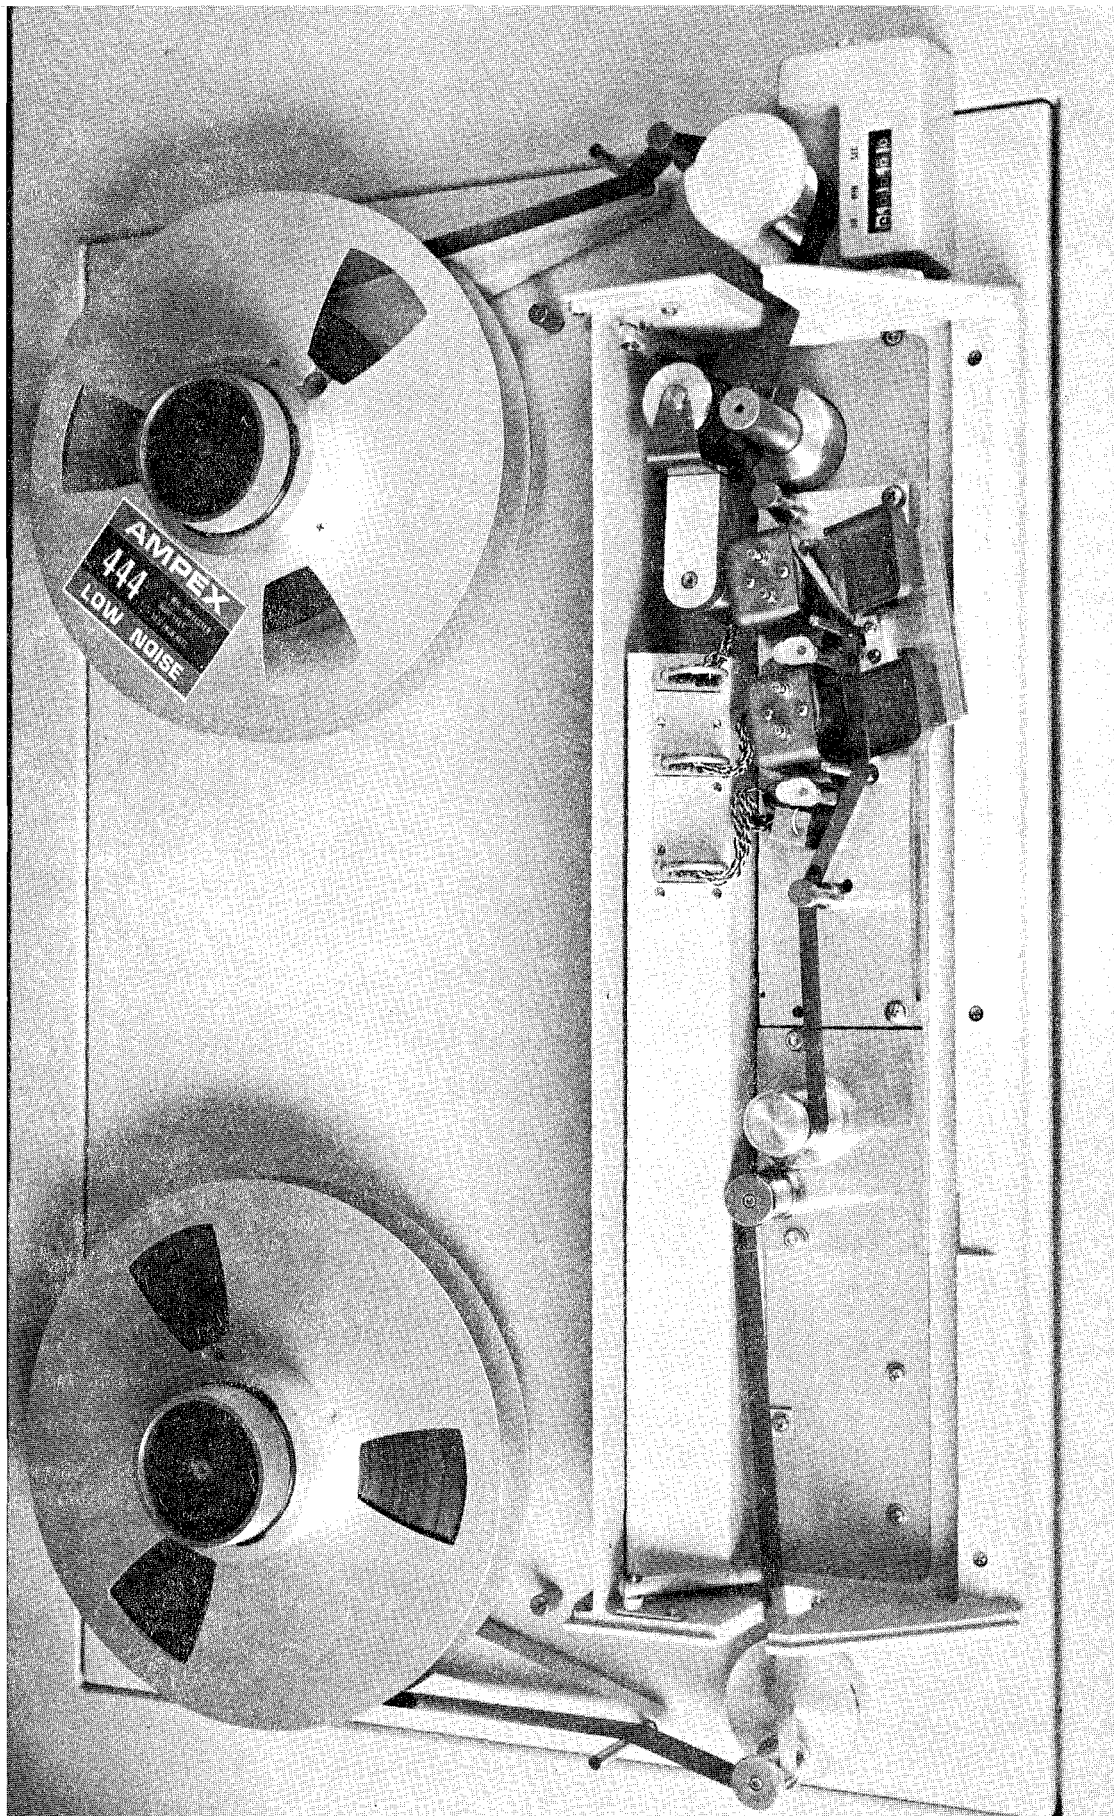

FIGURE 3-4
3.6.1 Threading Tape Use low-noise tape; Ampex 400 Series or equivalent. The tape path is shown in Figure 3-4. Turn power on. Place full reel on supply turntable, hold supply tension arm to left to release supply brake and pull off approximately 36" tape. Open head cover and head shield cover, thread tape, and reset tape indicator. Close head gates and cover.